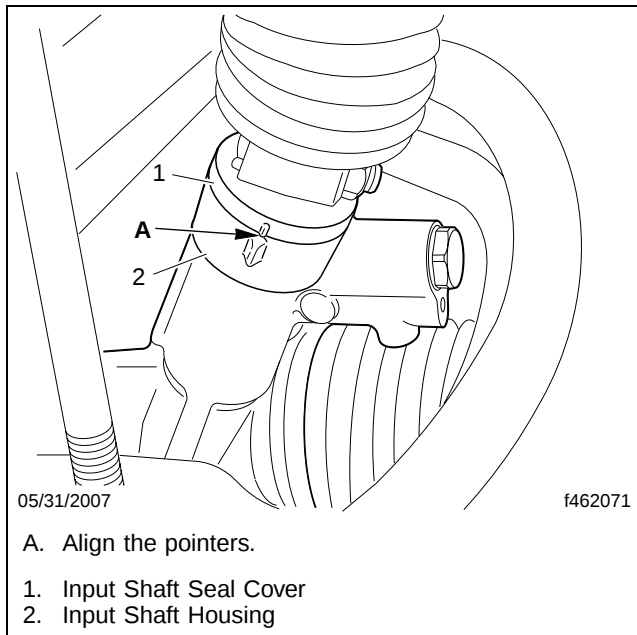

Fig. 11, Pointer Alignment
35.2 Align the pointers on the input shaft seal cover and the input shaft housing. See **Fig. 11**.
39.2 With the wheels on turnplates, center the rack travel by aligning the timing pointers on the input shaft seal cover and the input shaft housing. See **Fig. 11**.